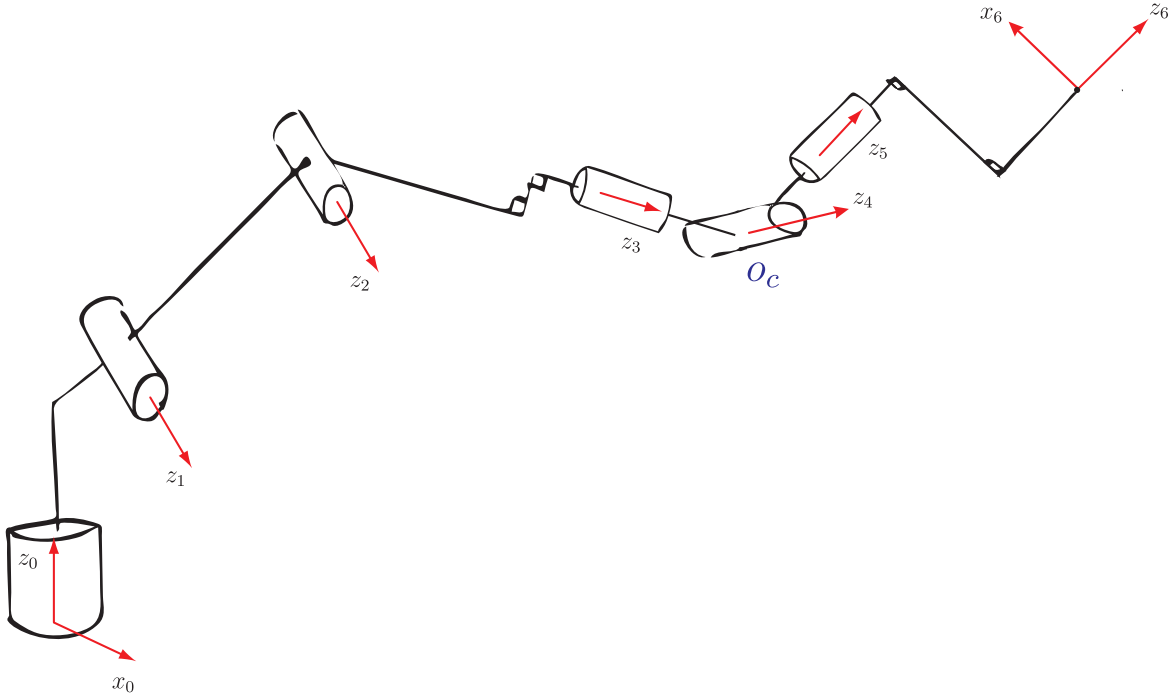

Figure 3: Schematic diagram of KUKA robot arm not at rest.
- Figure 3 depicts the robot in a generic configuration away from the rest position. Print out this page and draw on the figure coordinate frames $o_1x_1y_1z_1, o_2x_2y_2z_2, o_3x_3y_3z_3, o_4x_4y_4z_4$ and $o_5x_5y_5z_5$ according to the DH convention, and write the DH table of the robot. In particular, choose the x_1 axis parallel to the x_0 axis, $x_1 = x_0$ (this is done for convenience).